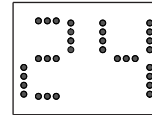

Fig. 1
- a. Align both the arrows of the Hose Inlet connector and the Exhaust Hose, then rotate the Hose Inlet clockwise or counter-clockwise to lock into place. (see Fig. 1)
- In Celsius degree, the digital displays like fig1.